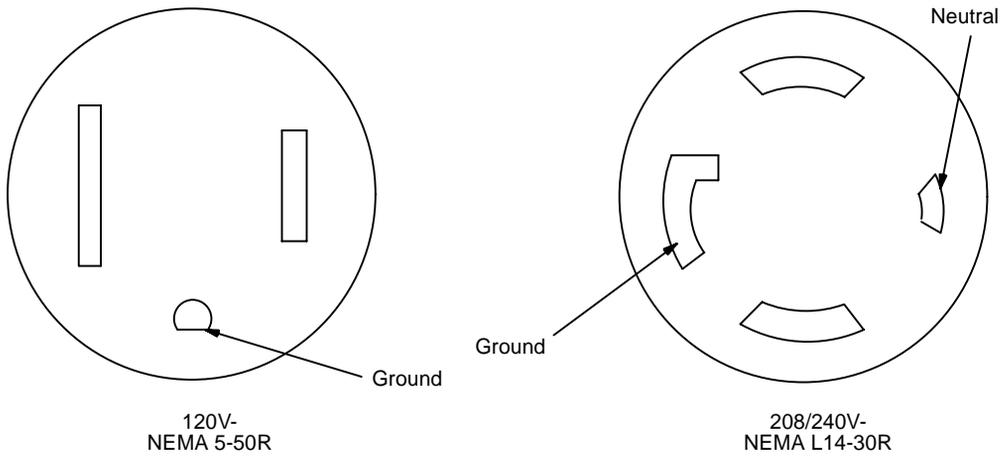

Figure 3-24. AC Receptacle
1. Set KS-20599, list 4-digital voltmeter (VM), or equivalent, to AC voltage range scale greater than 250 VAC.
2. See DANGER. Measure voltage at receptacle (Figure 3-24 on page 3-39).
The main circuit breaker on a MCC-MSM is located on the front of the AC/DC power distribution unit (Figure 3-24 on page 3-39).
2. Connect cabinet AC line cords to AC power receptacles (Figure 3-24 on page 3-39).